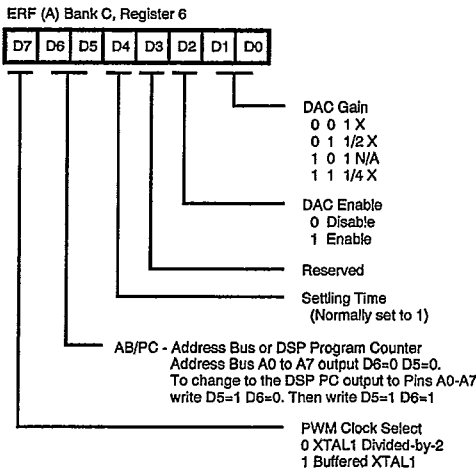

Figure 33. DAC Control Register
The DAC is controlled by the Z8. Its two registers (Control 1 and Data 1) are mapped into the ERF (Figures 33 and 34). The Data 1 register is writeable by the DSP.
The clock source for the PWM is programmable providing the user access to a higher frequency clock versus using the internal clock. The clock source is selected using Bit 7 of the DAC control register (ERF(A) Bank C, Register 6). D7=1 selects a buffered XTAL1 clock, D7=0 selects XTAL divided-by-2 (Figure 33).